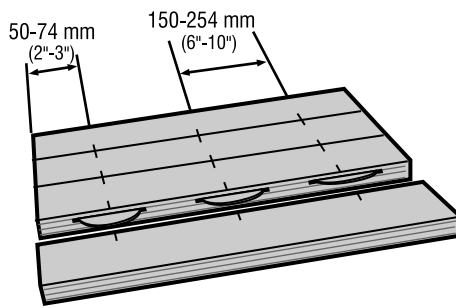

FIG 17
- Clamp the workpiece and position the tool so that the center indicator mark lines up with the first layout mark (see Figure 17). Turn on the tool and make the plunge cut. Retract the tool and release the trigger to turn the tool off. Repeat for each layout mark.